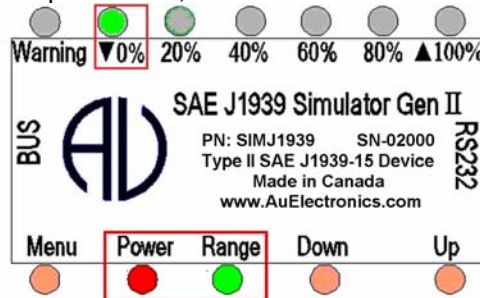

Figure 3-3
- When control step value equals to 0%, the ▼0% LED blinks, as shown in Figure 3-3